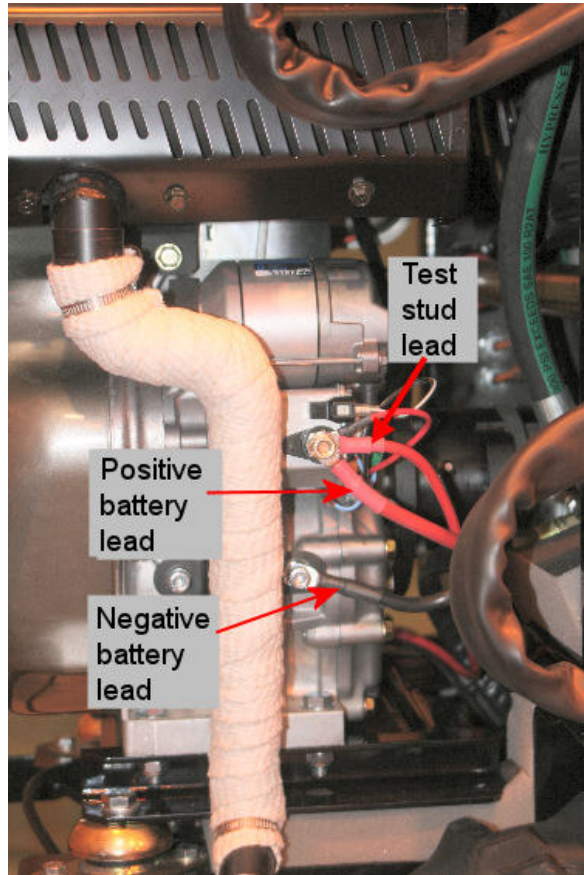

Fig 5-1 Isolate battery
2. Isolate the positive battery lead: carefully remove the lead from the terminal (*Fig 5-1*) and insulate it with tape to prevent a short-circuit that would damage the battery.
3. Remove the test stud lead from the terminal. (*Fig 5-1*).
4. Remove the negative battery lead from the bolt securing the exhaust (*Fig 5-1*).